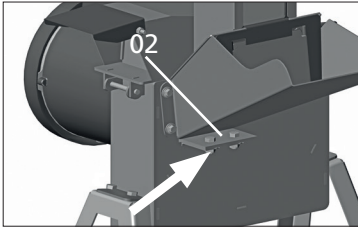
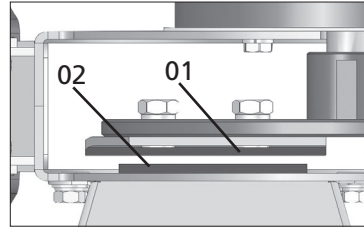

Fig. 14
Fig. 15
Loosen the hex nuts as shown [Fig. 14] and move the counter blade (2) until the blades (1) are approximately 1.5 mm away from the counter blade (2), [Fig. 15].